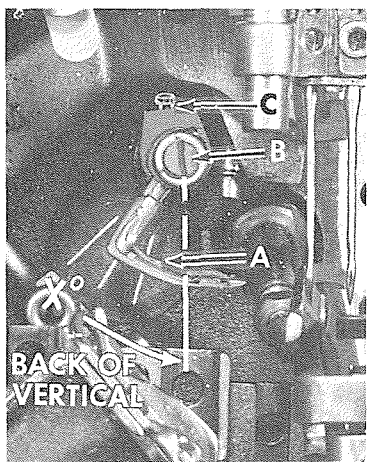
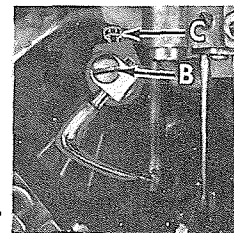

Fig. 10
Fig. 10A
Insert upper looper or spreader (A, Fig. 10) in its holder. Screw (B) holds the looper or spreader in its holder and permits looper or spreader to be pushed in or out, or turned around its shank. Screw (C) in the collar, holds the holder in the shaft and allows the holder to be rotated or adjusted laterally.
When looper or spreader is at the right end of its stroke, the holder should be set to position the looper or spreader shank approximately "X" degrees back of vertical and flush with the top of holder (Fig. 10), on all Styles except 39800 AA, AB, and approximately 1/16 inch (1.59 mm) above the holder on Styles 39800 AA, AB. On later machines with the new looper/spreader holder (See Fig. 10A), settings are the same for "X", "Y", and "Z" except for location of shank with respect to top of holder. This setting should be approximately 1/32 inch (.79 mm) above the holder on all Styles except 39800 AA, AB and approximately 3/32 inch (2.38 mm) above the top of holder on Styles 39800 AA, AB. These settings may vary depending on needle size. NOTE: Lines in bed casting represent 15, 30 and 45 degrees back of vertical.